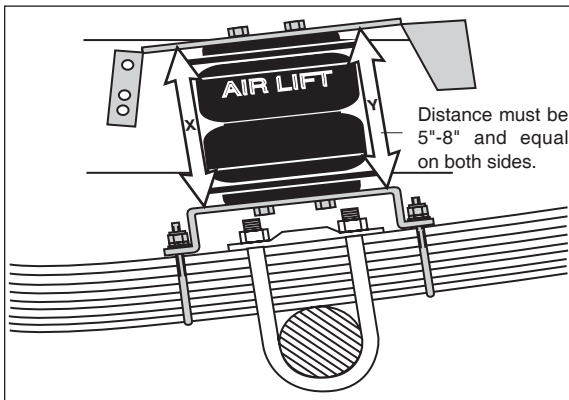

Figure 7
2. The air spring must be installed between 5" and 8" from the upper bracket to the lower bracket (Figure 7). It is best to position the upper bracket as high as possible, the taller the better.